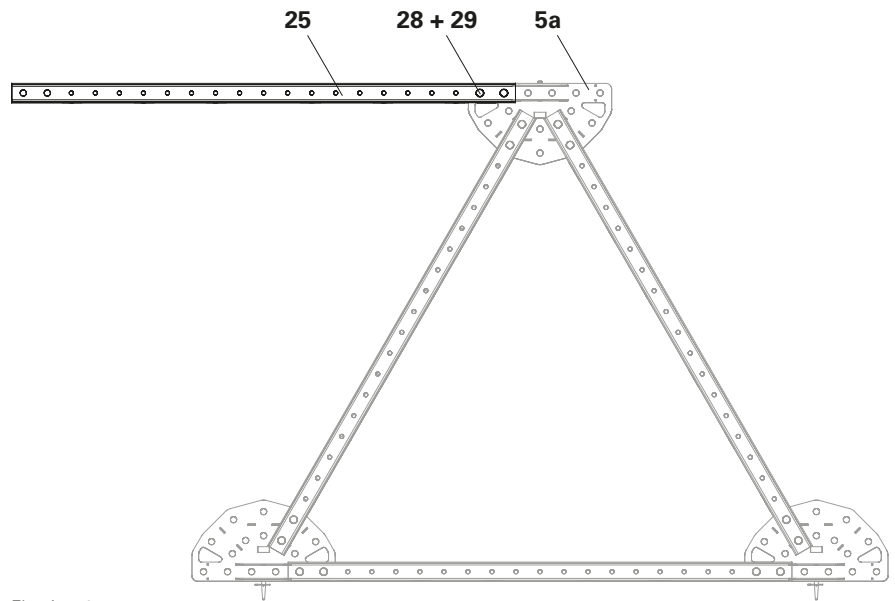

Fig. A4.10
2. Fix the Steel Waler 262 (**25**) to the Chord Nodes (**5a**) using 2x fitting pins Ø 32 (**28**) respectively and secure with cotter pins 5/2 (**29**). (Fig. A4.10)